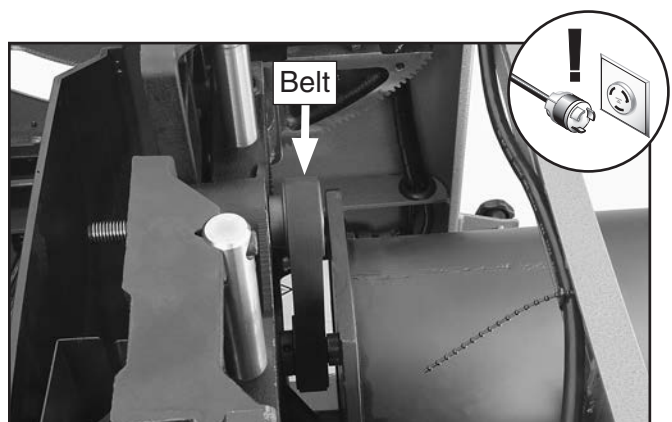

Figure 153. Belt installed.
9. Push the belt inward and roll it onto the top pulley. Continue pushing the belt and rotating it up and down until it is centered on both pulleys, as shown in **Figure 153**.